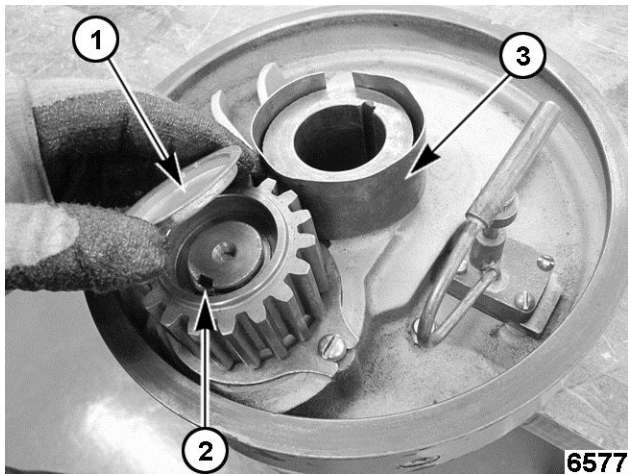

Fig. 27
1. Pry off oil retaining cap (1, Fig. 27).
2. Remove retaining ring (2, Fig. 27).